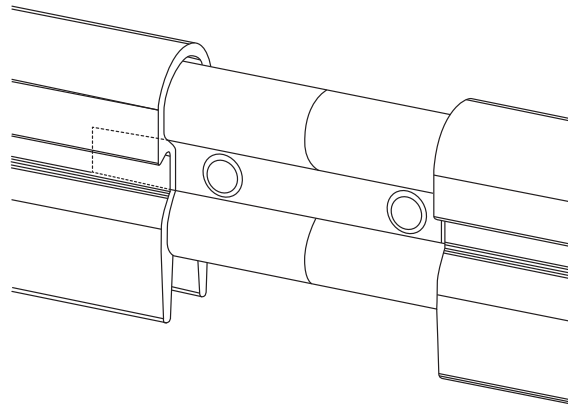

Figure: 9-8
- B. Push the pins into the holes on the bar. See **Figure 9-8**.